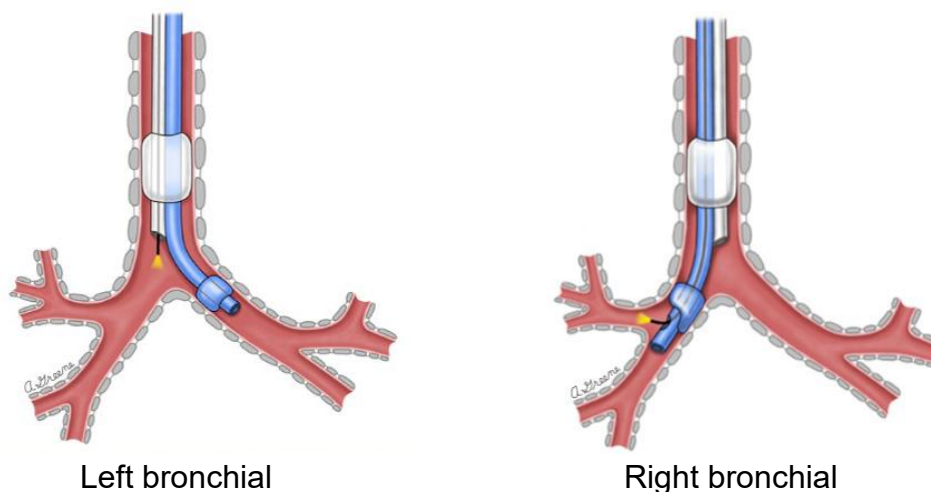

Figure 1 Final position of the Endobrochial Tube
- Use stethoscope or fiber bronchoscope to check if the Endobronchial Tube reach the correct position as figure 1. Attention: The position of Endobronchial Tube should be judged by professional clinical doctors.